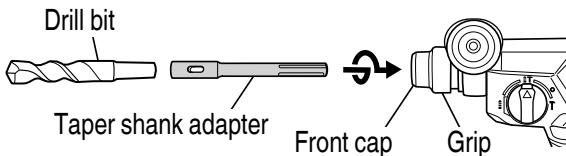
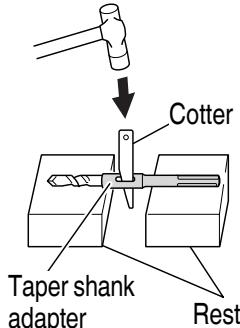

Fig. 30
Fig. 31
(1) Mount the taper shank adapter to the rotary hammer. (**Fig. 30**)
(2) Mount the drill bit (taper shank) to the taper shank adapter. (**Fig. 30**)
(3) Turn the switch ON, and drill a hole in prescribed depth.
(4) To remove the drill bit (taper shank), insert the cotter into the slot of the taper shank adapter and strike the head of the cotter with a hammer supporting on the rests. (**Fig. 31**)